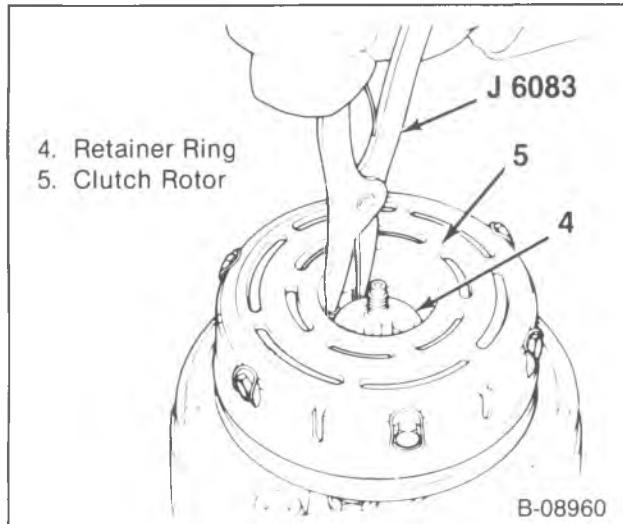

Figure 7—Removing the Rotor and Bearing Assembly Retainer Ring
1. Clutch drive hub (3).
2. Snap ring (4) with J 6083 (figure 7).
3. Rotor (6) and bearing (5) assembly.
- Retaining ring (4) with J 6083 (figure 7).